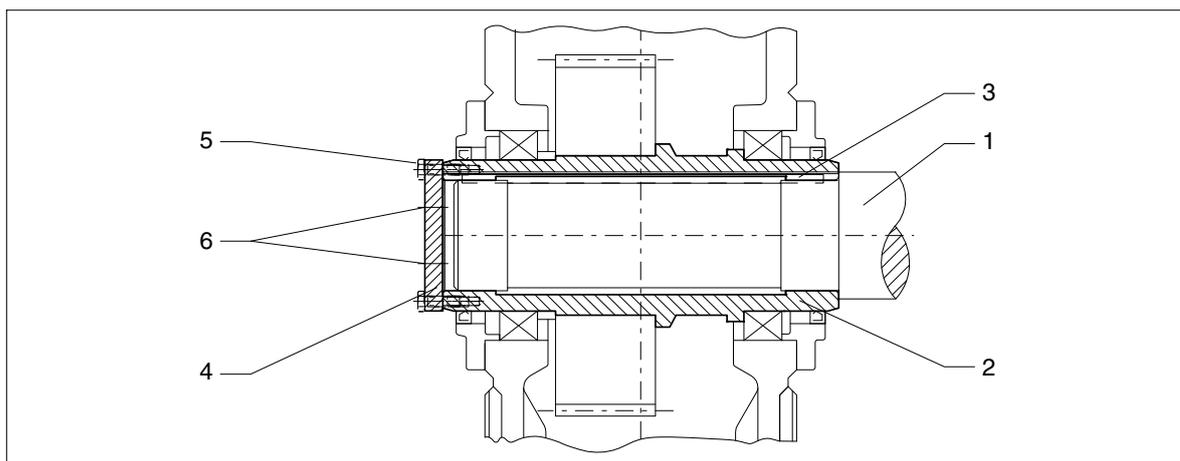

Fig. 35: Hollow shaft with parallel keyway, demounting with end plate
- using forcing screws in an end plate (see figure 35) or